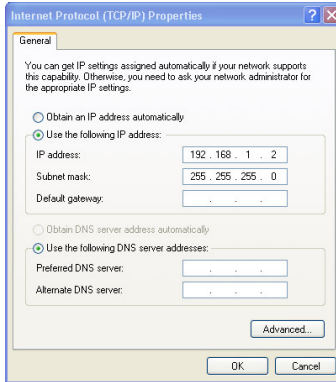

Figure 6: Internet Protocol (TCP/IP) Properties Window
5. Select **Use the following IP Address**1, and fill in the details as shown in Figure 6.